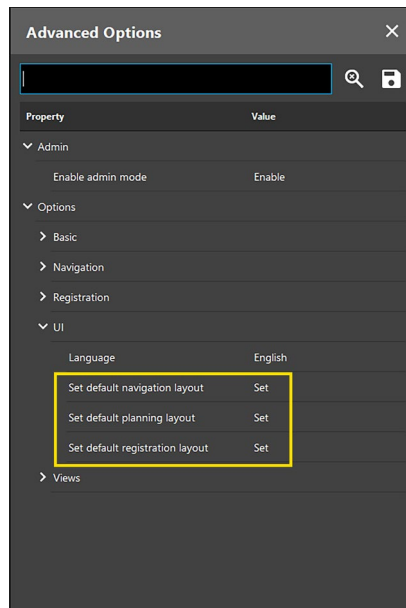

Figure 20 Setting of default view layouts
- Open the *Advanced Options* dialog (Ctrl + D) and click *Set* at one of the options (Figure 20):